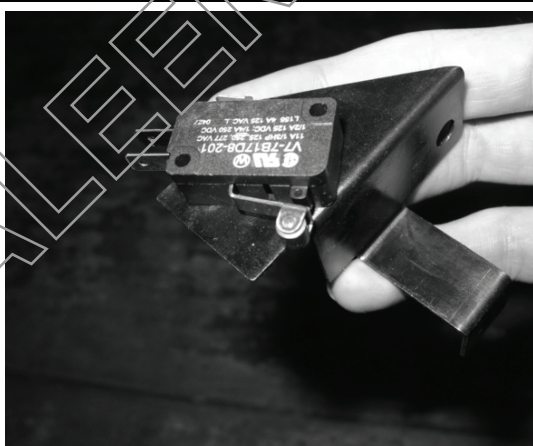

FIGURE 47
75. Attach the wide open throttle (WOT) switch (00-1904-C08216*) to its bracket (05-1601-C07996) with supplied 4-40x0.625 bolt (00-9001-C08566*) as shown in **FIGURES 47,49.**